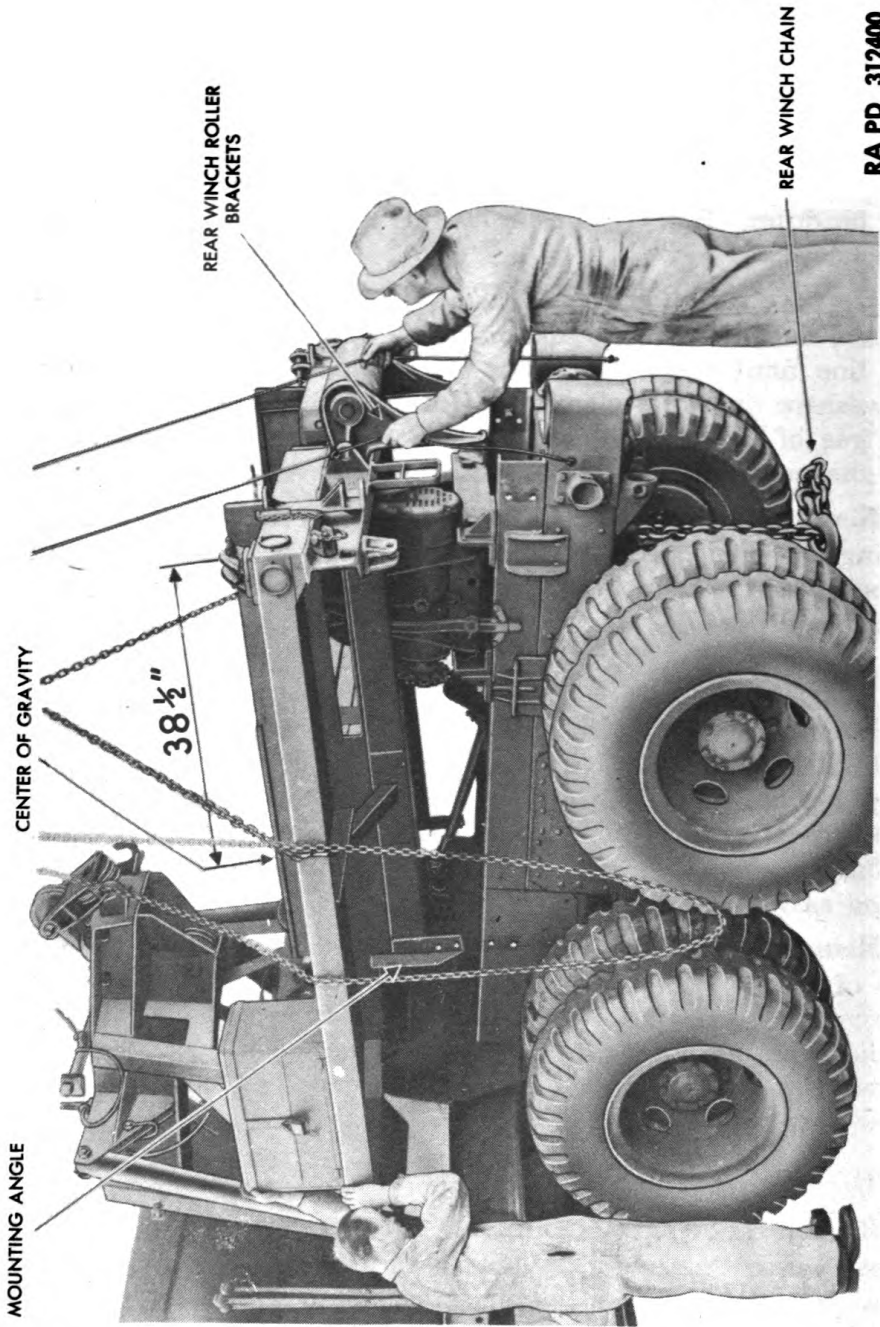

Figure 5 – Removing Body
a. Disconnect Rear Winch Roller Brackets. Remove sideboards and rear winch roller bracket bolts. Lift four side boards free of sockets. Remove four 5/8-inch bolts, nuts, and lock washers from each side of body mounting angles. Remove crane load indicator plate (M, fig. 31). Disconnect swinger cut-out valve air line clamp at body side board. Remove four 1/2-inch bolts, nuts, and lock washers retaining rear winch rope roller brackets to vehicle frame (fig. 5).
b. **Remove Body** (fig. 5). The center of gravity of the body with the tool equipment in the body tool boxes is 38½ inches ahead of the rear face of the body platform. A single bridal chain hooked under the platform angles connected to a chain hoist can be used for lifting. The body can then be raised and tilted front end down in order to clear the rear winch. Continue raising until it is clear of the vehicle and remove.